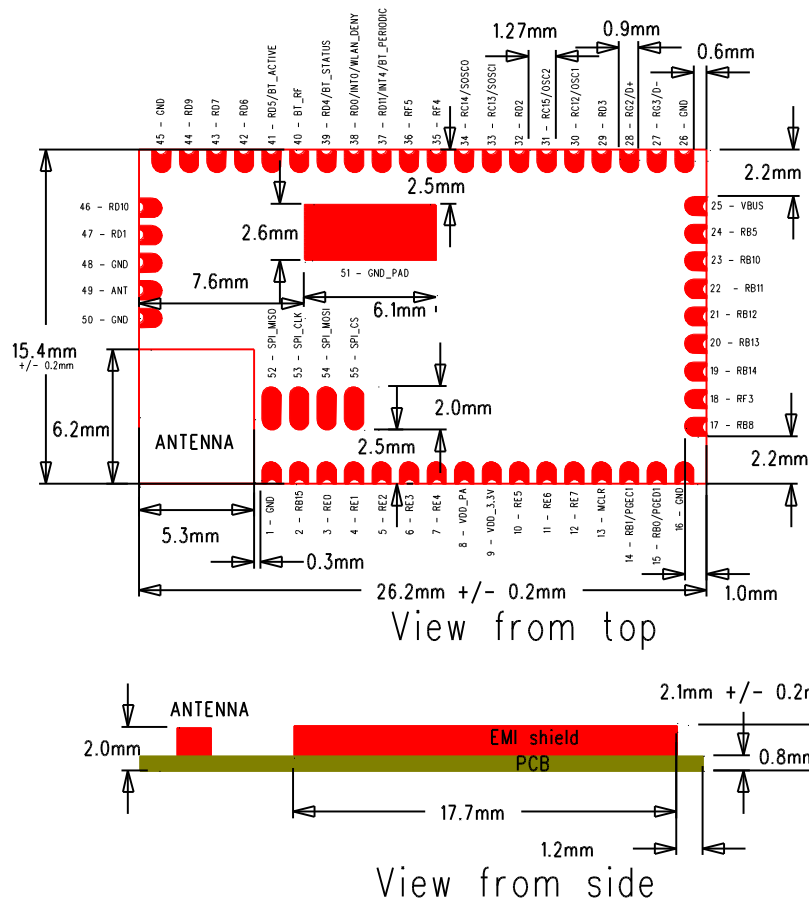

Figure 4: Physical dimensions
- Do not place a ground plane underneath the antenna. The grounding areas under the module should be designed as shown in Figure 4.